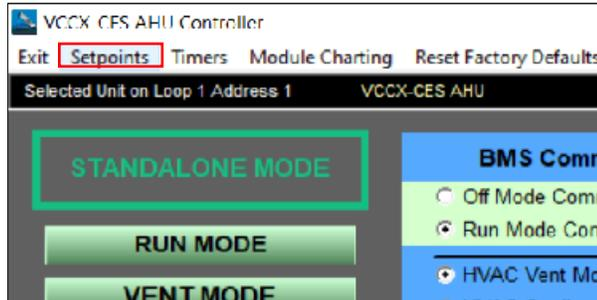

Figure 39: Opening Setpoints
2. Select the “Setpoints” on the top left Stand Alone Screen (see figure 39).